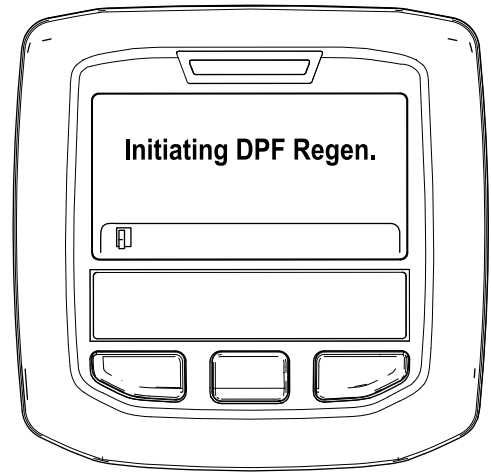

Figure 44
- A. The "Initiating DPF Regen." message displays (Figure 44).